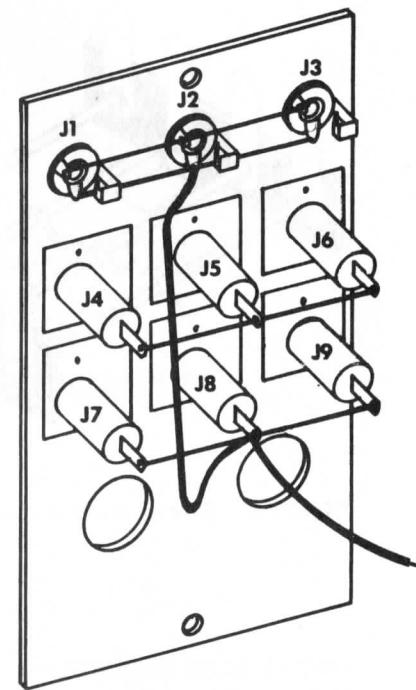

Figure 2 -
- ( ) Place a red pin jack (J4) in the hole provided as shown in figure 2. Fasten in place with a Tinnerman nut as shown in figure 1. Press the tinnerman nut down firmly.
- ( ) Mount miniature phone jack J1 in the location shown in figure 2. Orient as illustrated and carefully tighten the mounting nut provided with the jack.